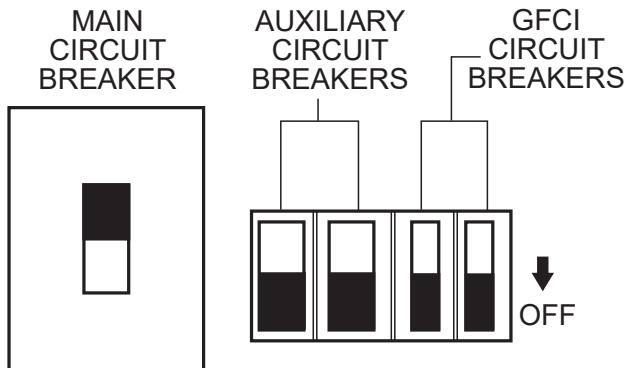

Figure 45. Main, Aux. and GFCI Circuit Breakers (OFF)
1. Place the **MAIN, GFCI, and LOAD** circuit breakers to the **OFF** position as shown in Figure 45.
3. Place the **MAIN, GFCI, and LOAD** circuit breakers as shown in Figure 45 to the **OFF** position.